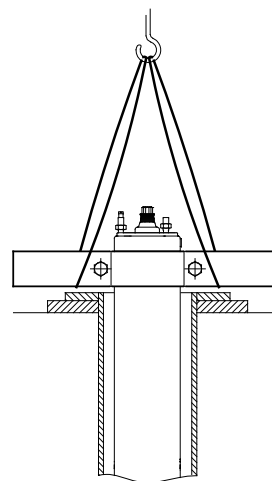

Fig. 20 Motor in vertical position
2. Place the motor in vertical position at the borehole seal. See fig. 20.